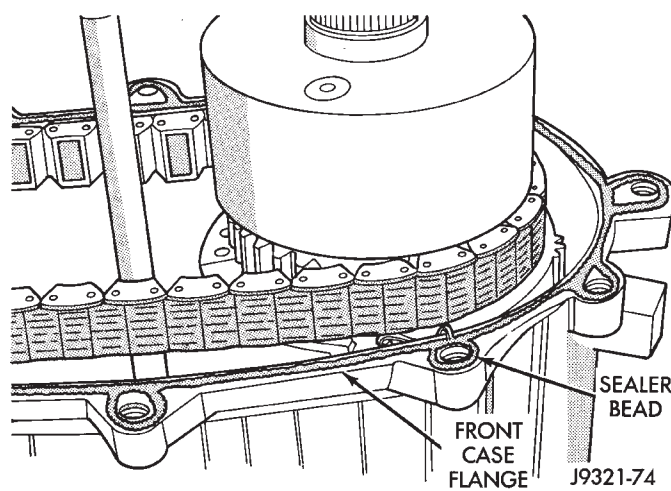

Fig. 85 Applying Sealer To Front Case Flange
- (4) Apply 3 mm (1/8 in.) wide bead of Mopar silicone adhesive sealer to mating flange of front case. Work sealer bead around bolt holes as shown (Fig. 85).